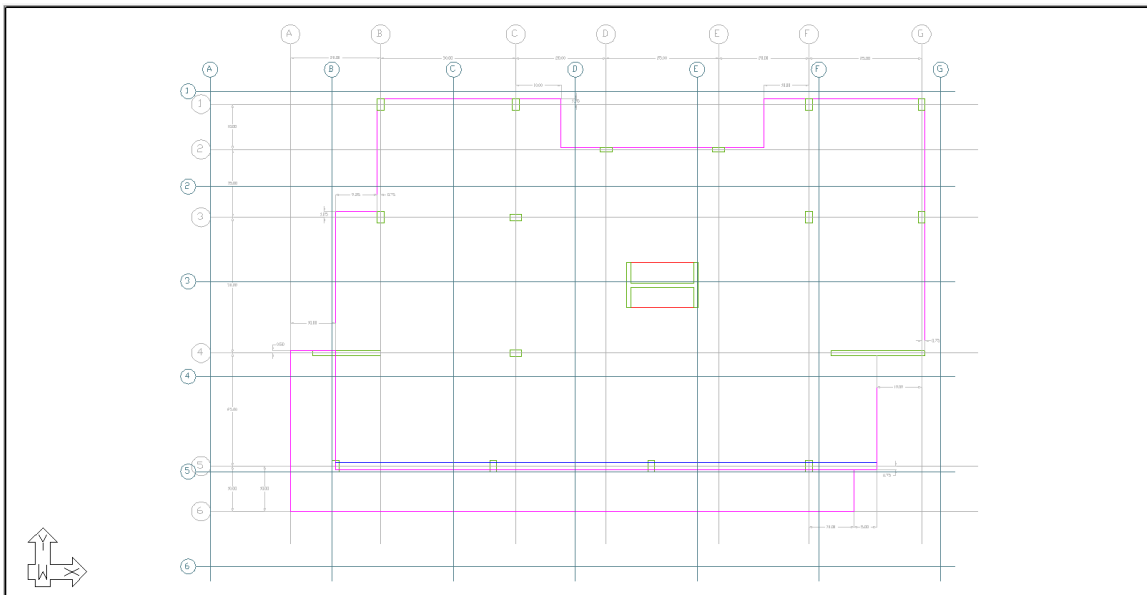

FIGURE 3-7
- Click on the **Zoom Extents**  icon. The model space should now look like **FIGURE 3-7**.